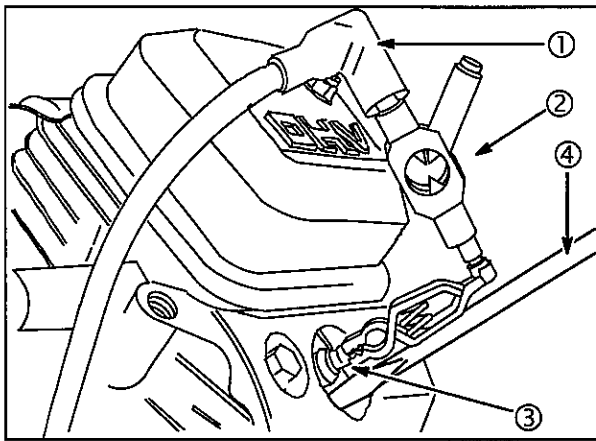

Fig. 6
3. Note RPM of engine. Ground one cylinder with screwdriver (4) by contacting alligator clip on ignition tester to a good ground on engine, **Fig. 6**. Note RPM loss.